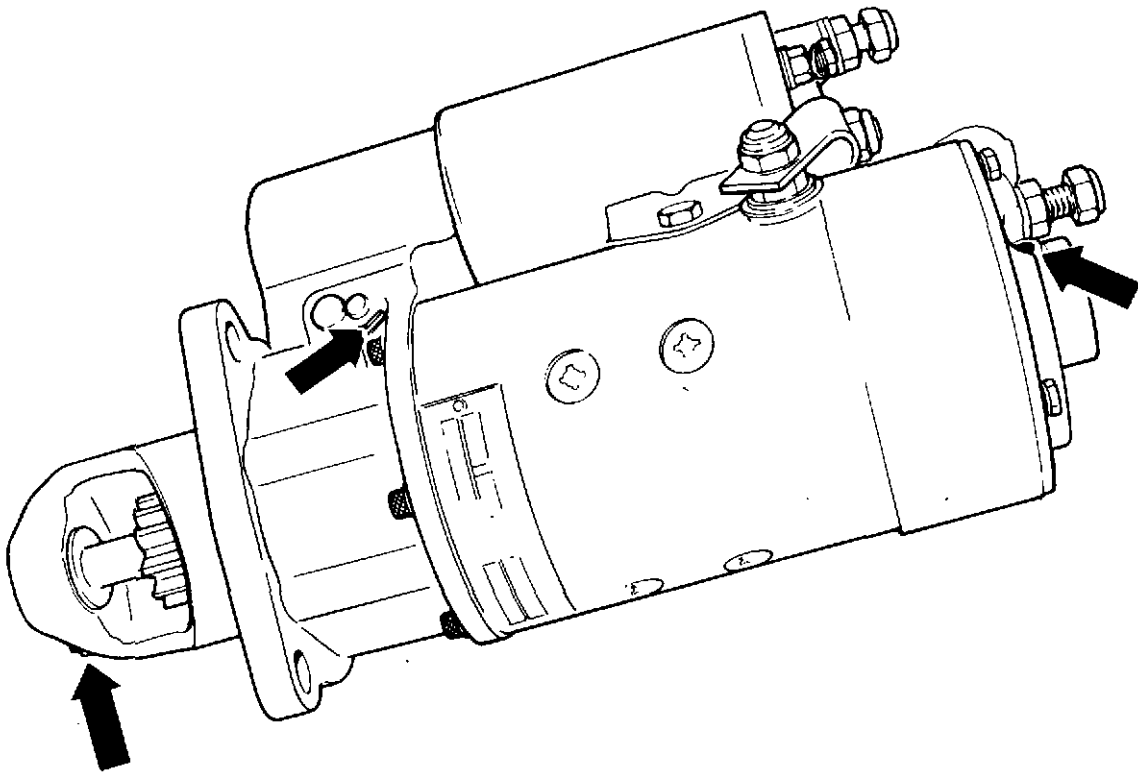

Fig. 4 Butec starter motor — lubrication points
5. Replace the rubber plug in the solenoid switch, fit both jumper leads and apply a few drops of SAE 5W/20 oil to each of the three lubricating points (fig. 4).